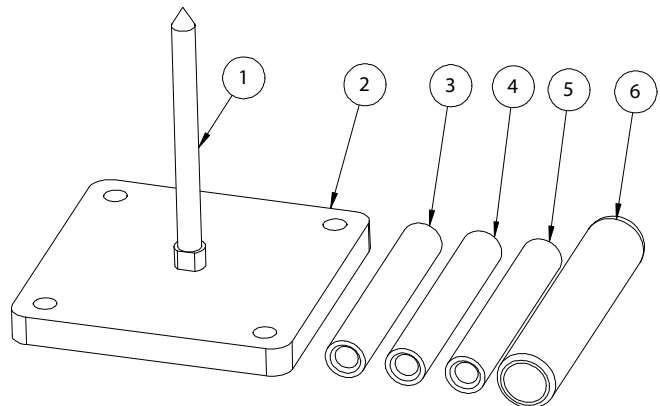

Figure 1: Packaged QRP-IN
The QRP-IN TCP check tool comes standard with the items shown in Figure 1. Before starting the installation, please read and understand the installation and operation procedures outlined in this manual.
2. Check to ensure all items shown in Figure 1 are located and identified. If any of the component parts are missing, please notify the local Tweco Welding Distributor or Tweco Products Customer Service Department at 1-800-426-1888.